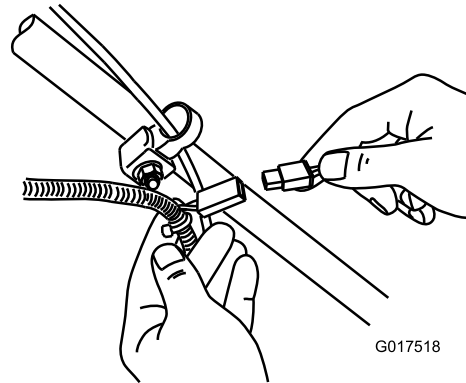

Figure 34
- Connect the charger to the wire harness located below the ignition key (Figure 34).